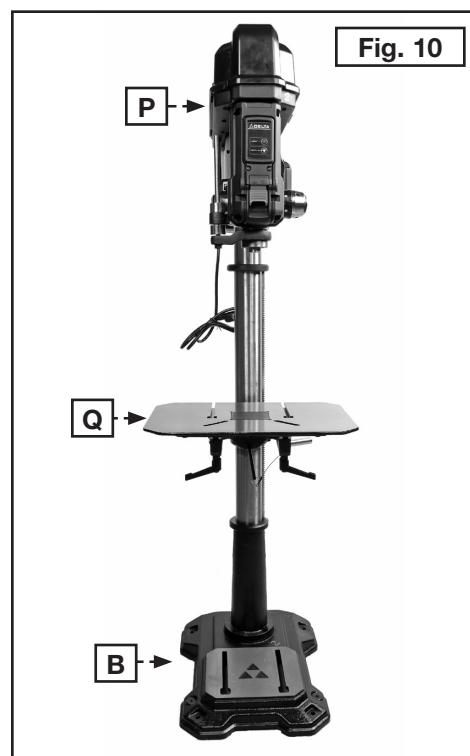

Fig. 10
2. Align the head (P) Fig. 10 with the table (Q) and the base (B).